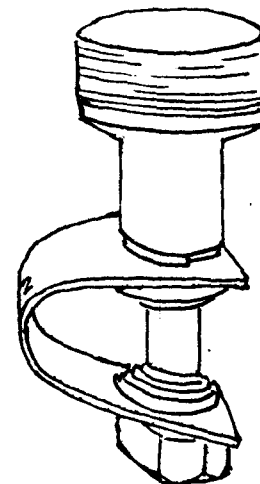

fig.3
1. The first step is to fit the frame clamps consisting of the parts illustrated in fig. 3. The frame clamps are to be fitted to the motorcycle frame in the positions outlined in the frame sketch on the last page. Particular note should be made that all frame clamps are stamped with a size number on the outer bend and that the size number for each clamp is inserted on the frame sketch. The front top, rear top and rear lower frame clamps consist the ball and socket type coupling while the front lower position uses the male and female clevis coupling. After fitting the first three (ball & socket type), screw them up as tight as possible while the front lower male clevis type should be left semi-tight so as the male clevis can be readily aligned with the slotted (female) clevis. The frame clamp bolt can then be tightened after the sidecar is fitted.